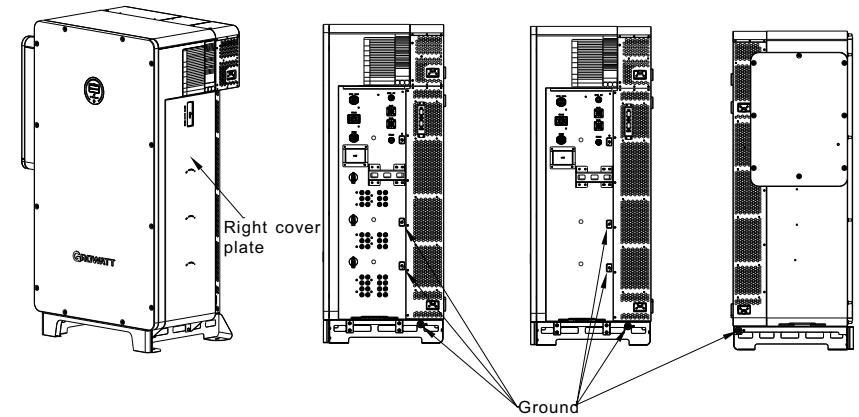

Fig 6.1 Ground points
4. The position of the ground points of the WIT 50-100K Storage/Hybrid Inverter is shown in Fig 6.1. You can find the ground points after removing the right cover plate.
1. Open the right cover plate of the WIT inverter, the position of which is shown in Fig 6.1;
4. Open the cover plate on the right side of the inverter, the position of which is shown in Fig 6.1.